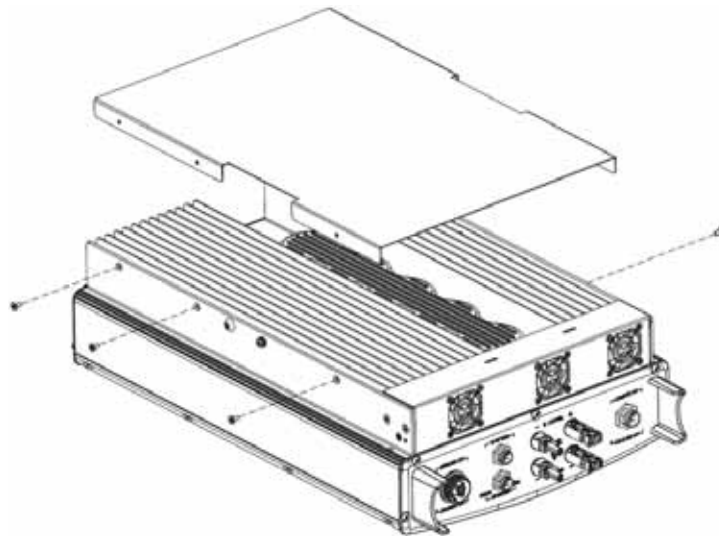
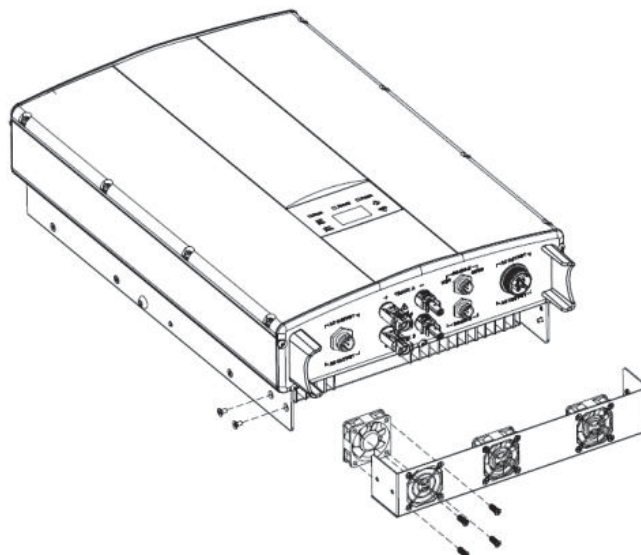

Figure 5.1 Disassembly of the heat sink
Figure 5.2 Disassembly of fan box
- (1) Disconnect the input and output of inverter.
- (2) Wait ten minutes.
- (3) Disassemble the inverter in the reverse of the installation procedure in section 4.
- (4) Remove the screws and cover of the heat sink or fan case. As shown in Figure 5.1 and Figure 5.2.
- (1) Disconnect AC circuit breaker.
- (2) Turn the DC switch to the "OFF" position.
- (3) Wait at least 10 minutes.
- (4) Disconnect all electrical connections from the bottom of the inverter.
- (5) Lift the inverter with the help of others and remove the inverter from the wall.
- (6) Place the inverter on the operating platform.
- (7) Disassemble the fan case as shown in Figure 5.2.